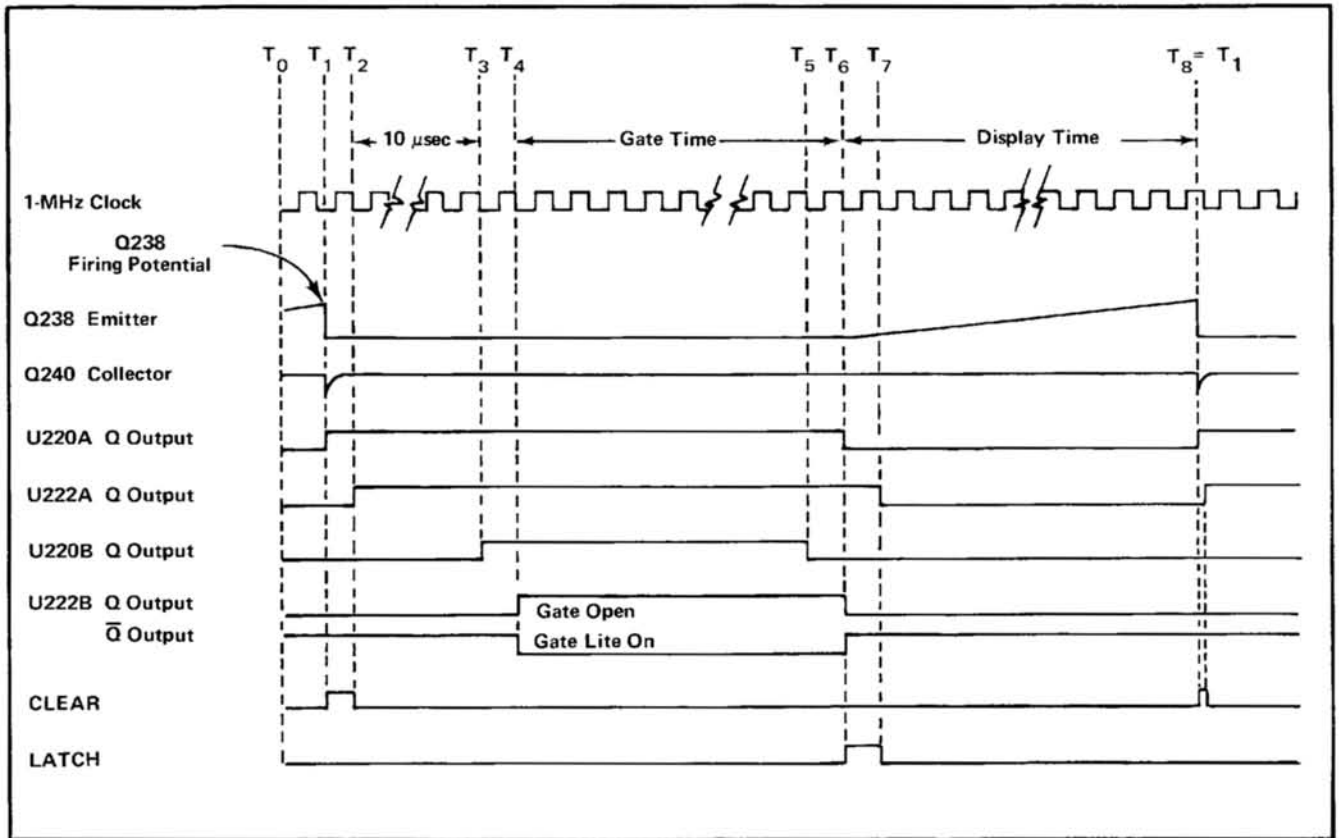

Fig. 2-2. Time Base generator normal gating mode ladder diagram.
Assume that the T_0 conditions are as given in Fig. 2-2. The Q outputs of U220A, U222A, U220B, and U222B are all LO. Q230 is off and the emitter of Q238 rises as C235 charges. At T_1 , Q238 reaches its firing potential and discharges the capacitor. This results in a short-duration LO pulse on the direct-set input (pin 2) of U220A, forcing its Q output HI and its \overline{Q} output LO. With two HI inputs on NAND gate U230A, its output goes LO and the output of NOR gate U230C goes HI, producing the CLEAR and $\overline{\text{CLEAR}}$ control signals. The next HI-to-LO transition from the 1-MHz clock (T_2) toggles U222A, causing its Q output to go HI and its \overline{Q} to go LO. With a LO applied to one of its inputs, U230A reverts to its original condition, terminating the CLEAR and $\overline{\text{CLEAR}}$ pulses. The DDU's then start counting from their 0999999 reset condition.
At the end of a 10-microsecond delay (time for the DDU's to count the first digit, plus a propagation delay), a negative transition from the DDU's via the MEASUREMENT INTERVAL switch toggles U220B. This corresponds to T_3 in Fig. 2-2. U220B's Q output goes HI and its \overline{Q} output goes LO. The next negative transition from the 1-MHz clock (T_4) toggles U222B, causing its Q output to go HI (GATE open) and its \overline{Q} output to go LO (supplying current to the front-panel GATE indicator LED, CR225). The GATE signal is also applied to the base of Q230, saturating the transistor and preventing C235 from charging.
The GATE remains open (HI) for the time duration selected by the MEASUREMENT INTERVAL switch. At the end of this time, which corresponds to T_5 in Fig. 2-2, another negative transition from the DDU's toggles U220B. U220B's Q output goes LO and its \overline{Q} output goes HI. The next negative transition from the 1-MHz clock (T_6) toggles